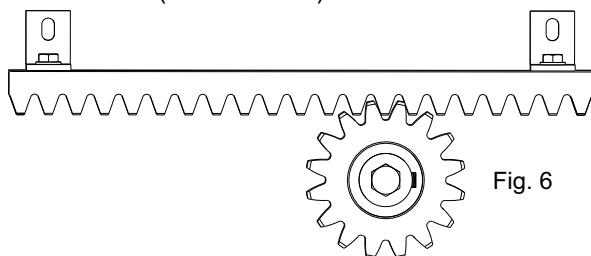

Fig. 6
5.3. Put the gear rack element on the toothed pinion of the moto, so to be parallel to the ground slidway of the gate, place it as shown in Fig. 6 and drill the holes corresponding to the holes of the L-shaped brackets on the top of the slot and fix to the leaf with screws (not delivered).